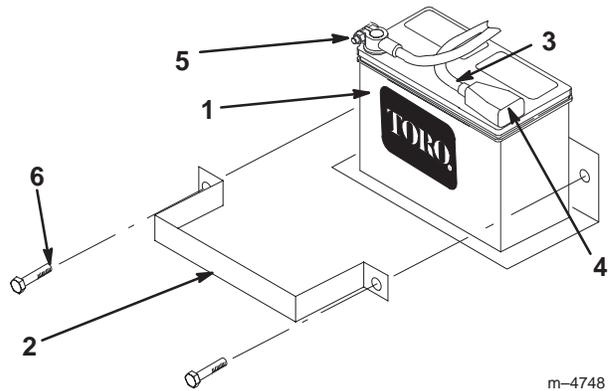

Figure 1
2. Remove the bolts and clamp securing the battery (Fig. 1).
9. Secure the battery in chassis with the clamp and bolts removed previously (Fig. 1).
10. Using the bolt and nut supplied with the battery, connect the positive (red) cable to the positive (+) battery post (Fig. 1). Slide the rubber cover over the battery post.
11. Using the bolt and nut supplied with the battery, connect the negative (black) cable to the negative (-) battery post (Fig. 1).